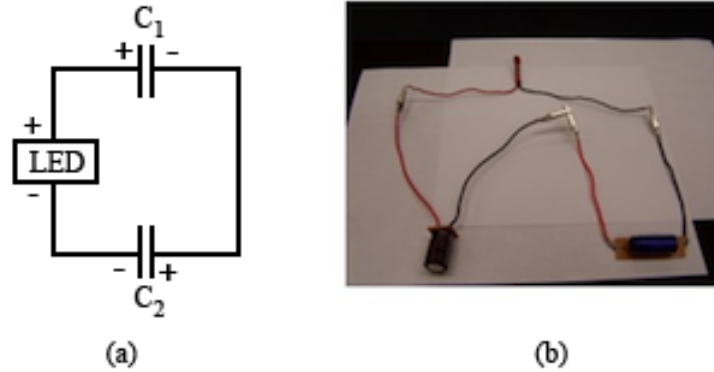

Figure 7: Circuit diagram and photo for LED connection
- 6 Connect the LED to the capacitor arrangement as shown in Fig. 7.